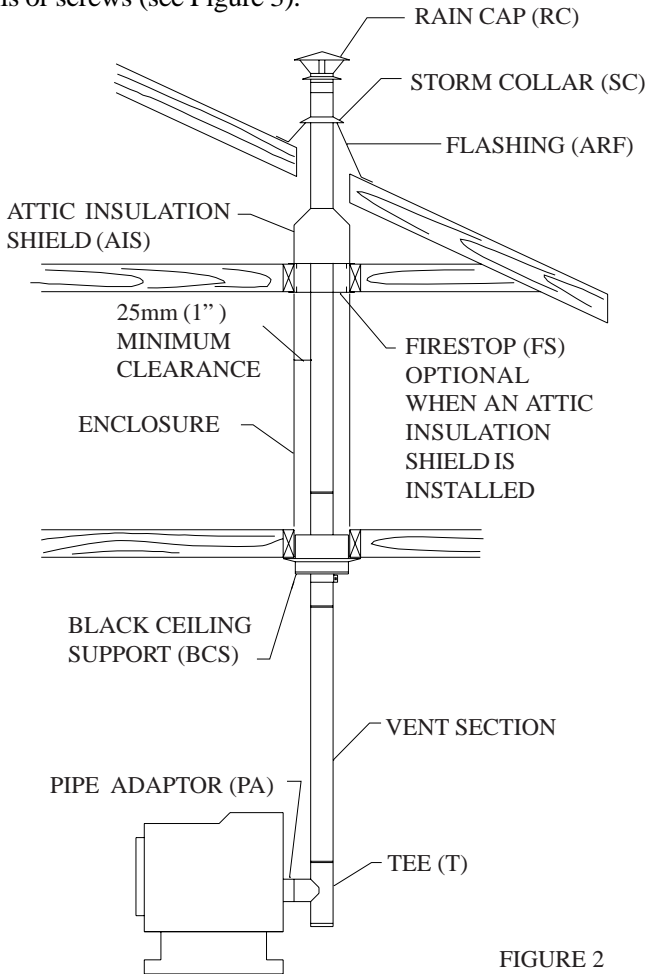

FIGURE 2
1.1 General VENT layout is shown in Figure 2.
1.7 Install the BLACK CEILING SUPPORT (BCS) from below the joist level and fasten with 4 x 1.5" spiral nails or screws (see Figure 2).
1.11 FIRESTOPS are required where the Vent penetrates a floor or ceiling. Cut a hole of the appropriate size in the ceiling/floor and install the FIRESTOP from above or below the joist. Fasten the FIRESTOP with nails through the corners as per Figure 2. An Attic Insulation Shield is also available where the venting passes into an attic space and is installed from above. When an Attic Insulation Shield is installed the Firestop installed from below is then optional as per Figure 2.